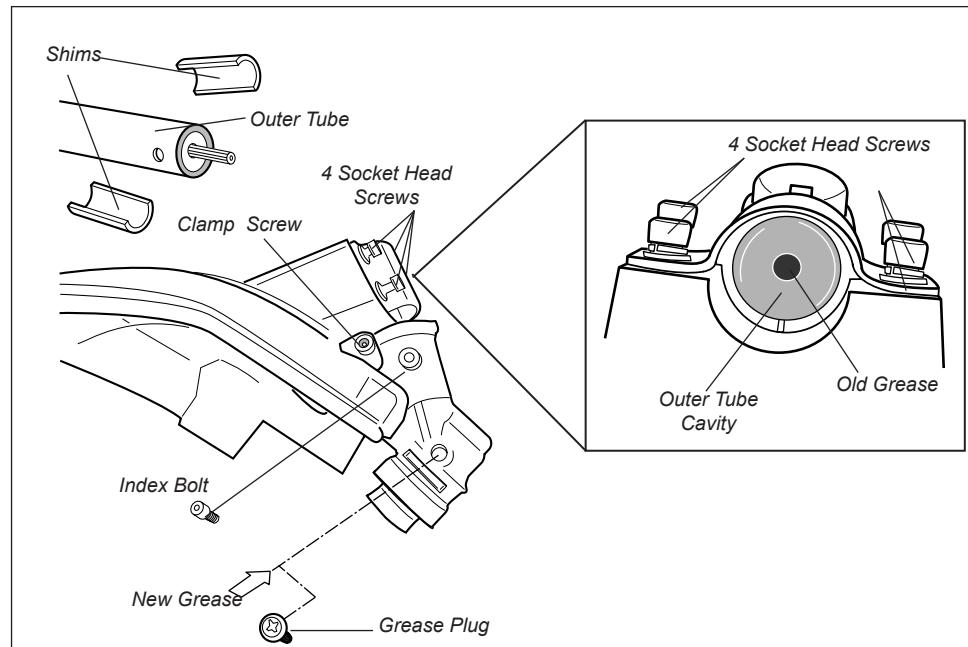

Figure 23
1. To perform this operation, first remove the gearcase and debris shield from the outer tube as follows. See Figure 23.